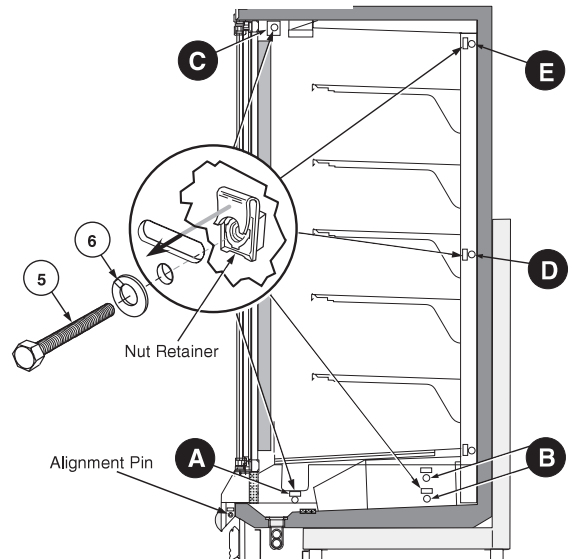

Figure 7A. Joining Sequence
7. Loosely insert Cap Screw (5) with Lock Washer (6) into each nut retainer following the sequence shown in Figures 7A and 7B.